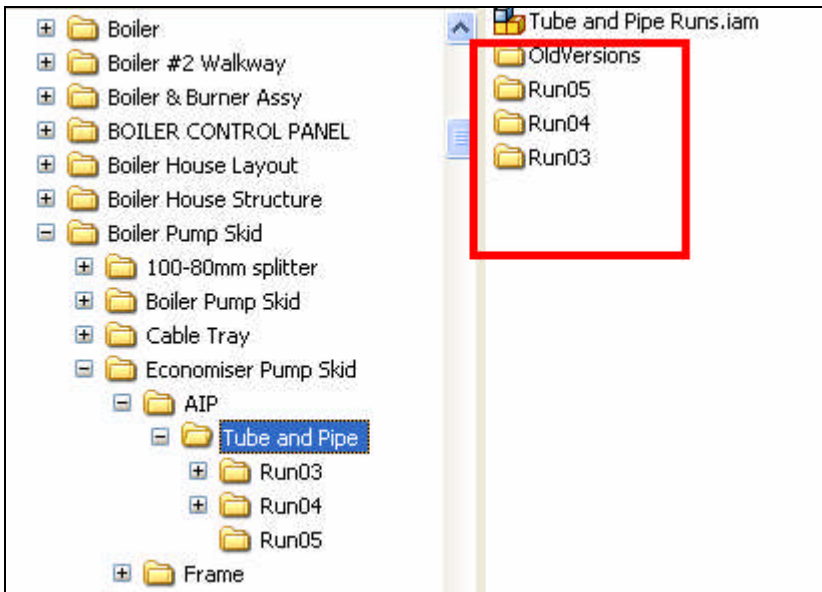
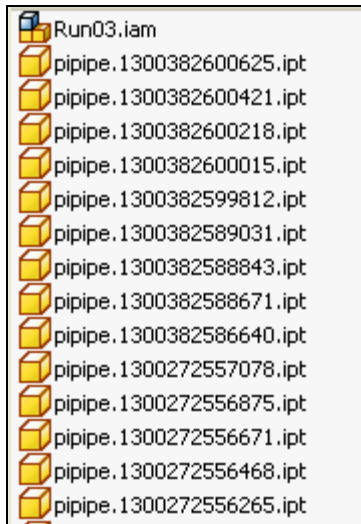

Figure 8
Figure 9
i.e. in Figure 8 above, the file shown with name "Tube and Pipe Runs.iam" is the culprit - you need to find a known working version of this and replace it. Yours may have a different name - it is in the same folder path as in the Figure - beneath YOUR assembly file that contains the tube & pipe run/s..
The naming is done by closing Inventor and renaming the iam file in Figure 8 (to exclude the assembly name prefix) and the iam file in Figure 9 for each of the Run0x folders e.g. inside folders Run03, Run04, Run05 etc.